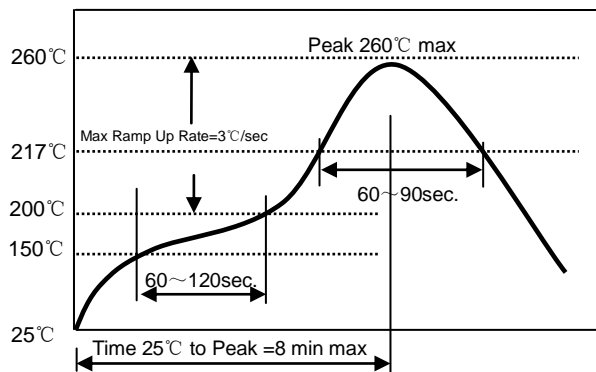

Fig. 12.1-1
- Please refer to **Fig. 12.1-1**.